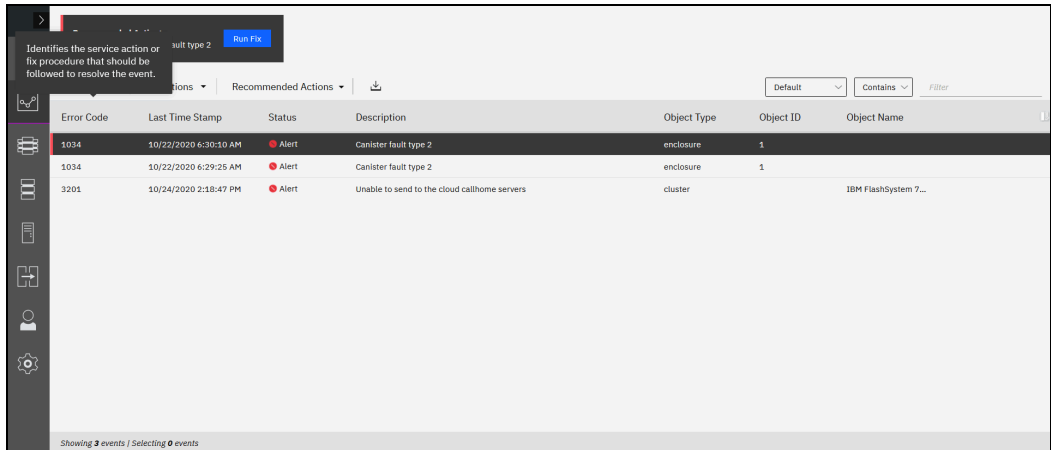

Figure 13-33 Messages in the event log
1. Select **Monitoring** → **Events** to see all problems that exist on the system (see Figure 13-33).